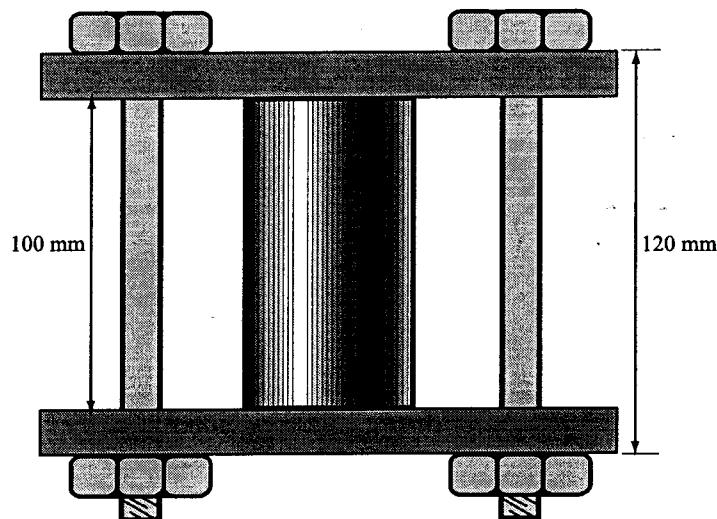

Figure Q1
- Q1.** The 50 mm diameter cylinder is made of Am 1004-T61 magnesium and is placed in the clamp when the temperature is $T_i = 40^\circ\text{C}$ as shown in the Figure Q1. The two 304 stainless steel carriage bolts of the clamp each have a diameter of 10 mm with 20 threads per 20 mm, and they hold the cylinder snug with negligible force against the rigid jaws. In answering the followings, the explanation of whether it is statically determinate problem, the equations of equilibrium and compatibility, the free body diagram and the geometry (diagram) of deformation must be included.